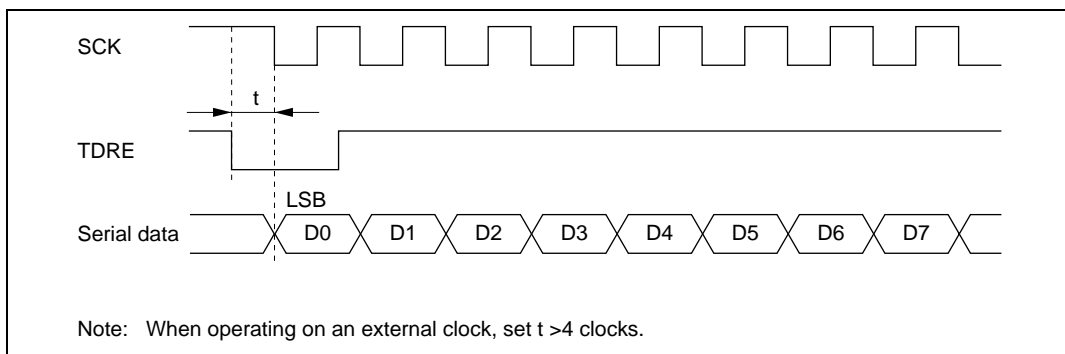

Figure 13.22 Example of Clocked Synchronous Transmission by DTC
- When an external clock source is used as the serial clock, the transmit clock should not be input until at least 5 ϕ clock cycles after TDR is updated by the DMAC or DTC. Misoperation may occur if the transmit clock is input within 4 ϕ clocks after TDR is updated. (Figure 13.22)